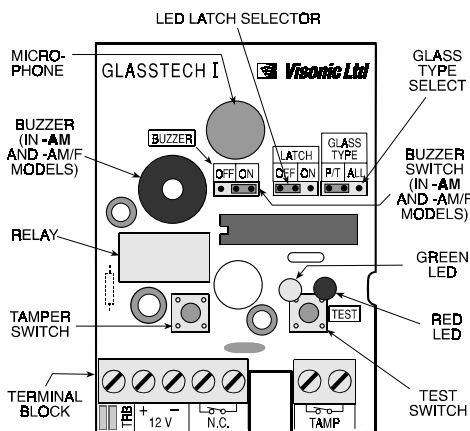

Figure 5. Printed Circuit Board Layout
- C.** Insert a screwdriver blade into the slot at the right side of the PCB (see Figure 5) and dislodge the printed circuit board from the right-side retaining tab. Remove the printed circuit board and put it aside carefully.
3.7 Setting the Jumper Links (Fig. 5)